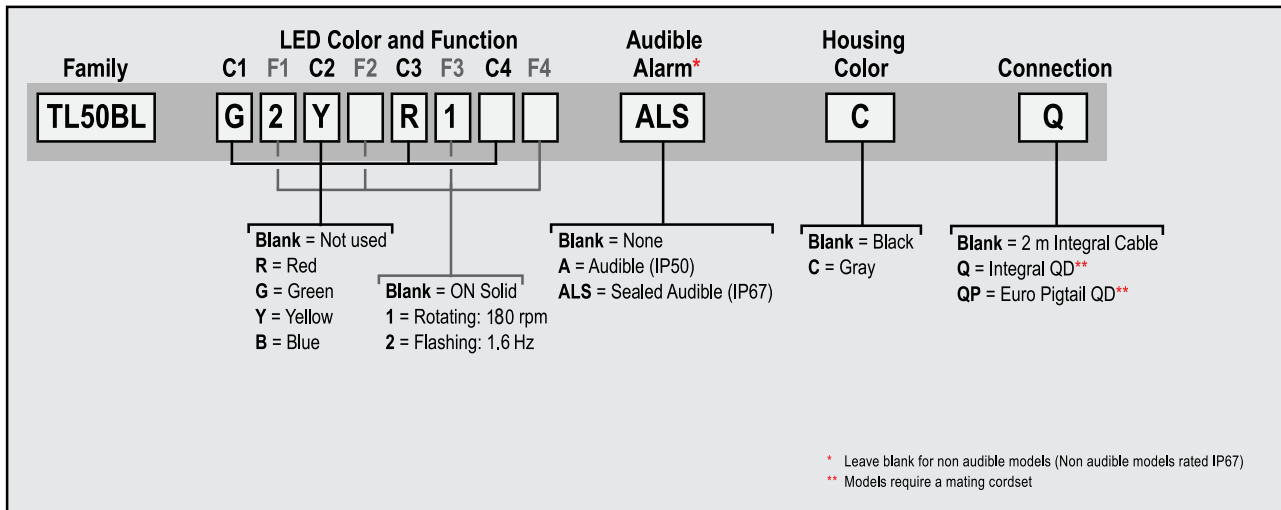

Figure 1. TL50BL Tower Lights Model Key
- Consult model key about flashing and rotating options (see Figure 1. TL50BL Tower Lights Model Key on page 2)